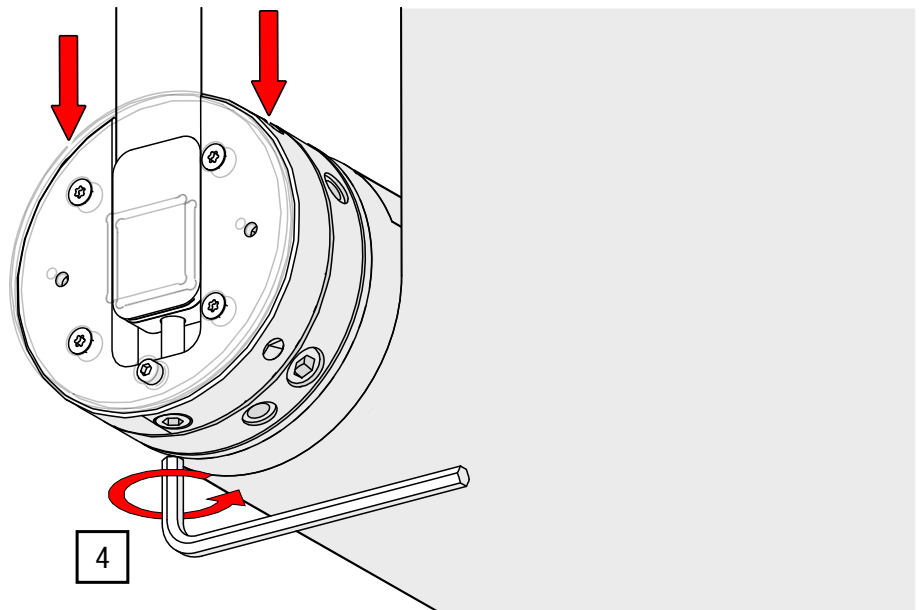

Fig. 36: Setting the levelling – Adjusting the winding shaft downwards
- Turn the levelling screw counterclockwise using an Allen key AF 8 (see Fig. 36).